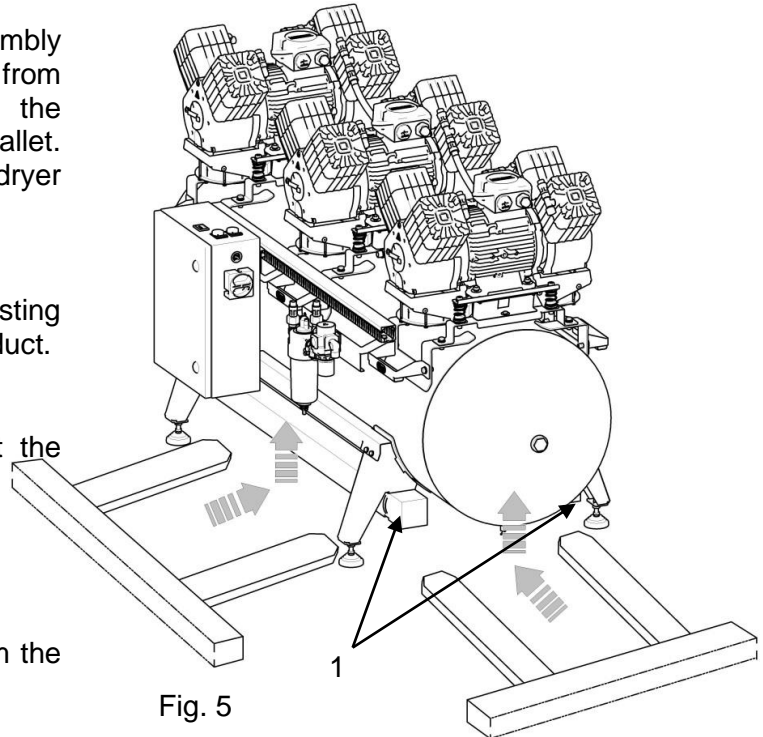
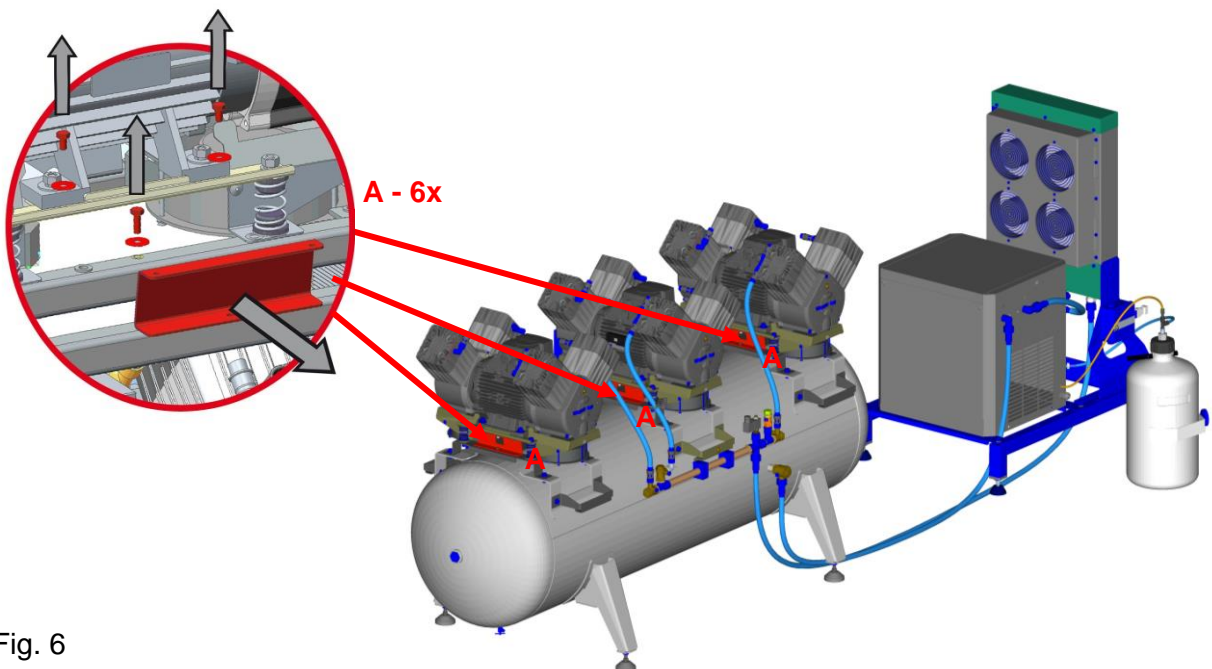

Fig. 5
Fig. 6
- Position the compressor module at the site of installation. (Fig. 5)
- Remove the transport beam (1).
- Remove the transport stabilisers from the air pumps. (Fig. 6)